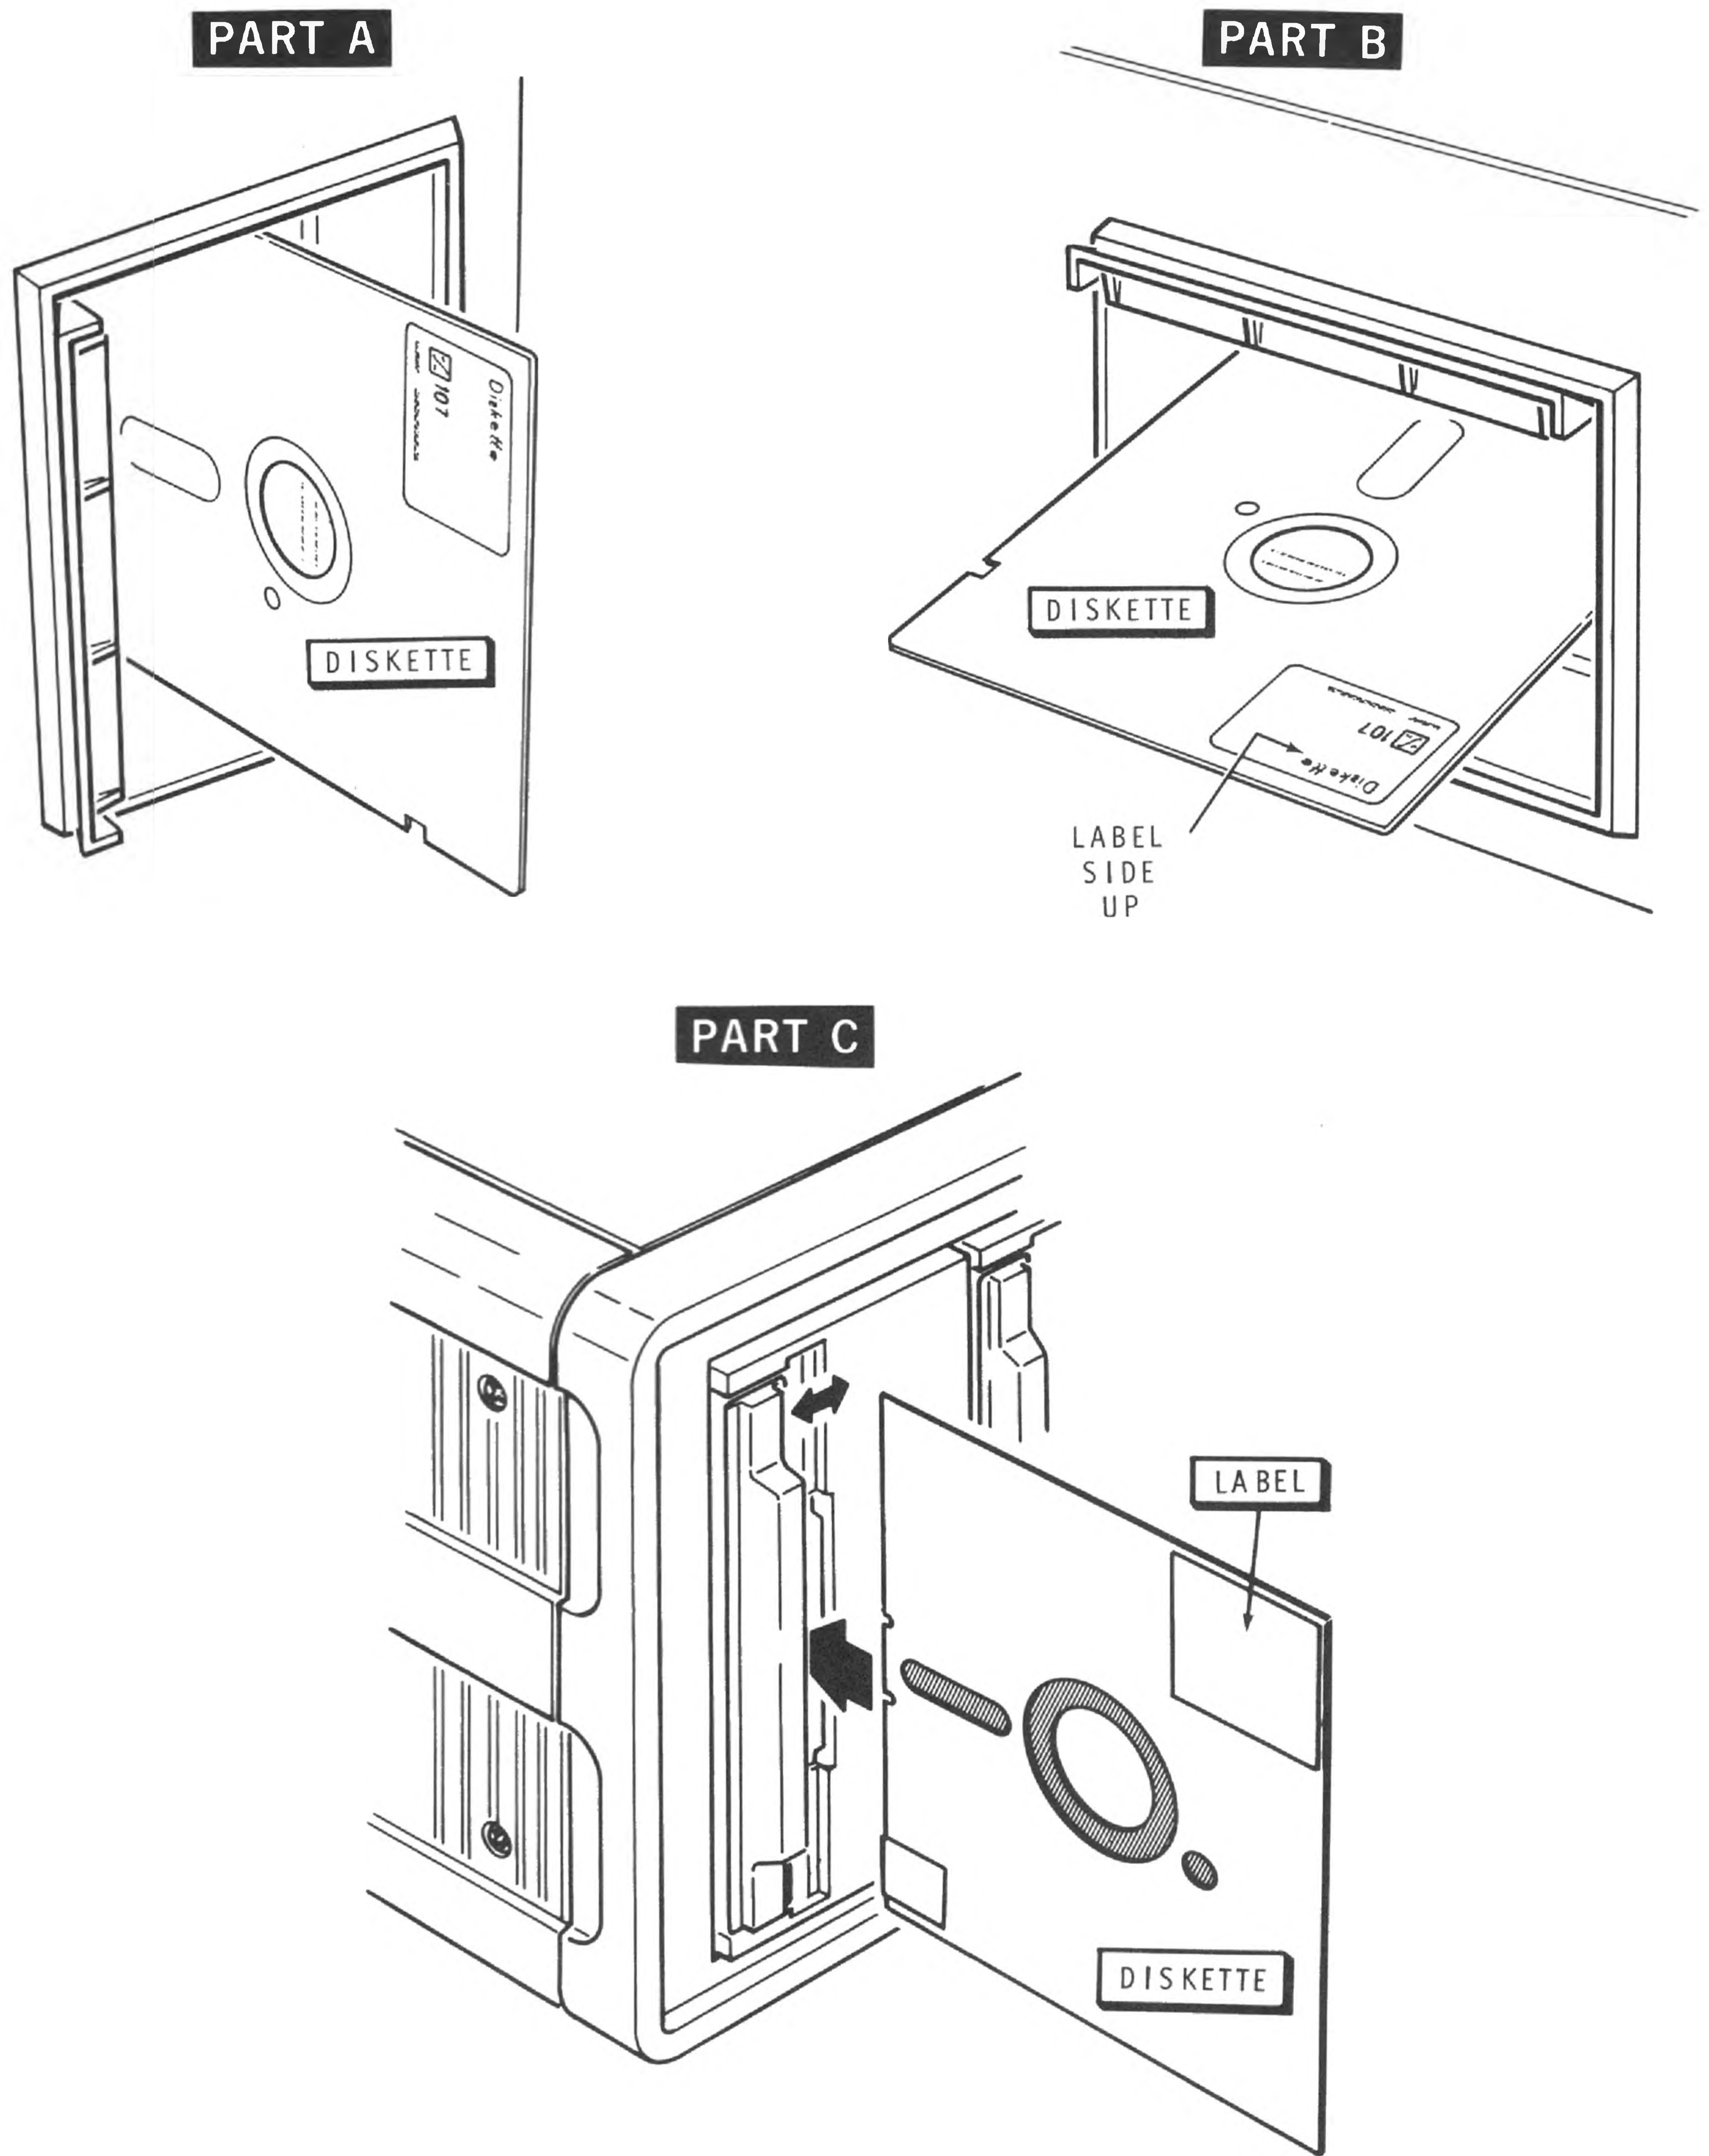

Figure 1-2
- () 3. Insert the distribution diskette into the drive that has been hardware configured as primary boot drive \emptyset ; See Figure 1-2. Close the door of the drive unit after you have inserted the diskette.